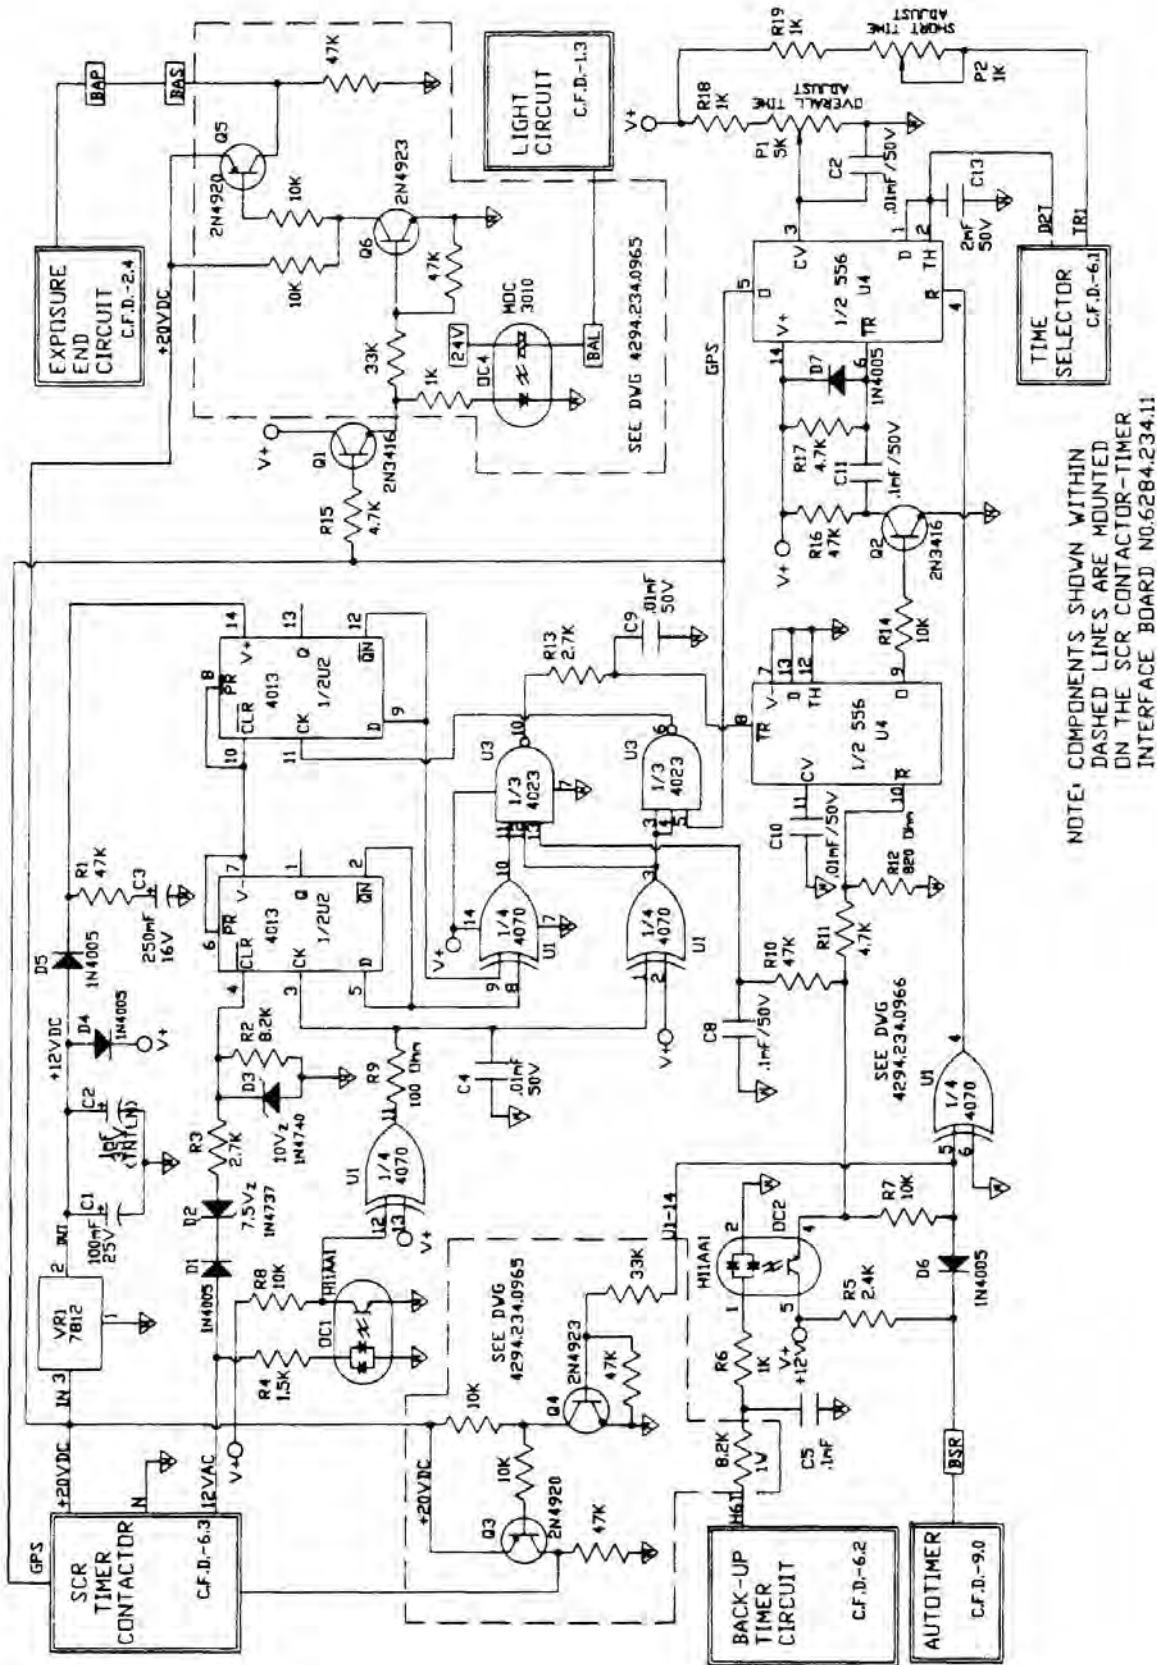

Figure 2-8. Circuit function description 6.0.
a. Refer to figure 2-8. Power for the timer circuit is supplied by the SCR-timer contactor. The supplies are positive (+) 20vdc and 12vac. All voltages are referenced to the system common "N."
- (1) The 12vac supply is fed to an ac input of optocoupler OC1.
- (2) The output of OC1 is coupled directly to one section of U1, a quad XOR gate, which buffers and inverts the signal.
- (3) The output is shaped by R9 and C4 and applied to the clock input of flip-flop pin 3 of U2.
- (4) The clock pulses are again inverted by another XOR gate of U1 and become one of the inputs to each of the triple input NAND gates contained in U3.
- (5) The 12vac supply is also rectified, clipped, and shaped by the combination of D1, D2, D3, R3, and R2.
- (6) The resulting wave form is applied to the CLR pin 4 of the flip-flop contained in U2. This synchronizes the flip-flop so its output is in phase with the ac line.
- (7) The output of flip-flop U2, pin 2, is a square wave which cycles at the same rate as the line frequency whenever the system is turned on. This output is compared with the output of flip-flop U2, pin 12, by an XOR gate in U1.
- (8) The flip-flop U2, pin 12, is only clocked during an exposure, so the output of the XOR gate U1, pin 10, will alternate at the same rate as flip-flop U2, pin 1, except only during an exposure. This ensures each successive exposure will begin on the opposite phase of the ac line from the last impulse of the previous one.
The timer is an analog-type switch using a resistance-capacitance (RC) combination. On the impulse-timer deck of the time-selector switch are 24 resistors connected in series which form the "R" part of the timing circuit. As the selected time increases, the total resistance is increased because a greater number of series-connected resistors are selected. These resistors are inserted into the charging path of C13 timer capacitor shown in figure 2-8 in lead D2T.
a. The voltage across the impulse-timer deck is some portion of positive (+) 12vdc as adjusted by the short-time-adjust pot (P2) also shown in figure 2-8. This positive voltage is on leads TR1 and D2T. The back-up timer deck of the time-selector switch utilizes resistors in the same manner as the impulse-timer deck. As the selected back-up time increases, so the total resistance increases.